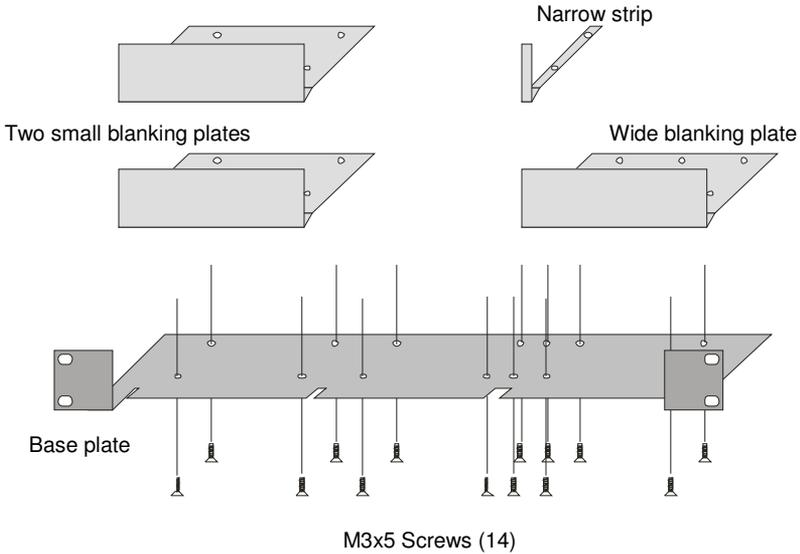

**Figure 24 Multiple dual head application**
- 3x Dual Head application in 19"/2U (Figure 24).